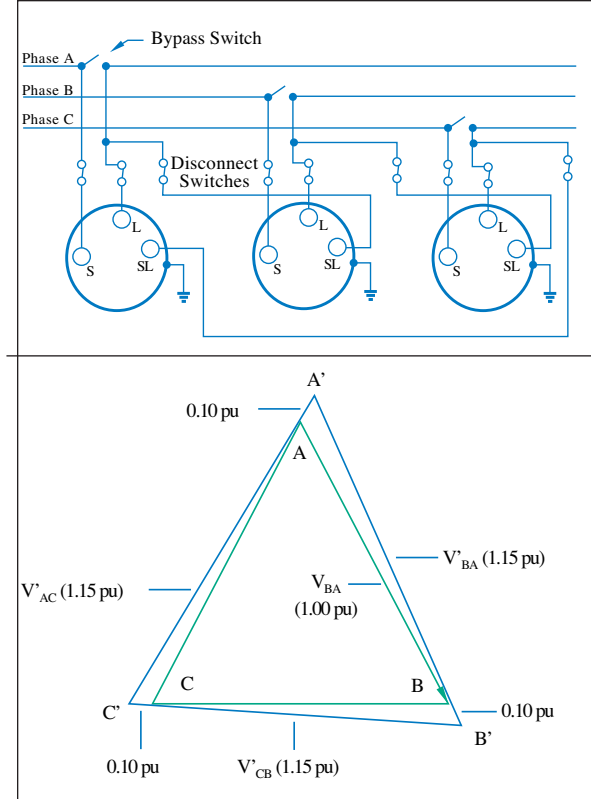

Figure 8: Three single-phase regulators control voltage on a three-phase, three-wire circuit.
- Closed-Delta Connection (Figure 8): Maximum regulation is $\pm 15\%$ of input. Three single-phase regulators are used.